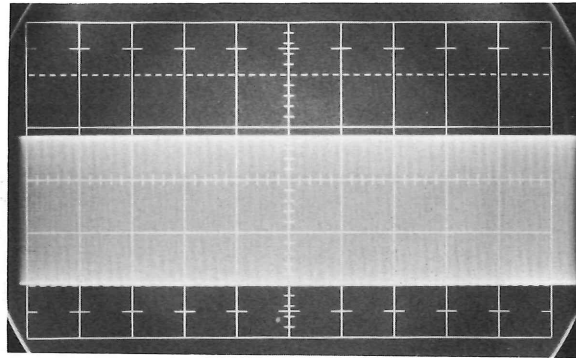

Figure 21
1. Repeat the steps outlined in A for CH 2. See Figure 21.